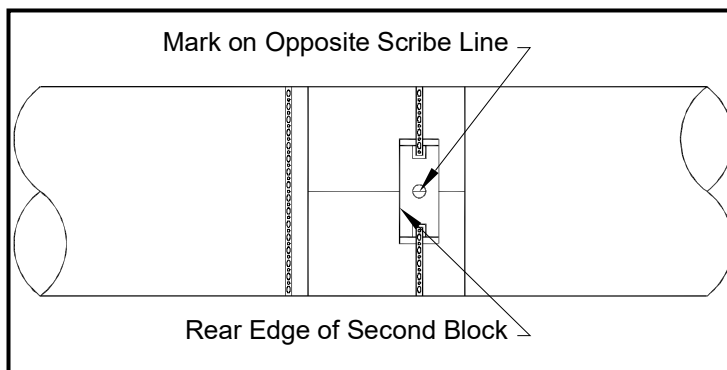

Figure 19: Line Up Rear Edge of Bracket with 180° Scribe Line
4. Line up the *other* edge of the CFG-PI holder bracket with the scribe line and tighten the chain or strap, as shown in Figure 19 below.